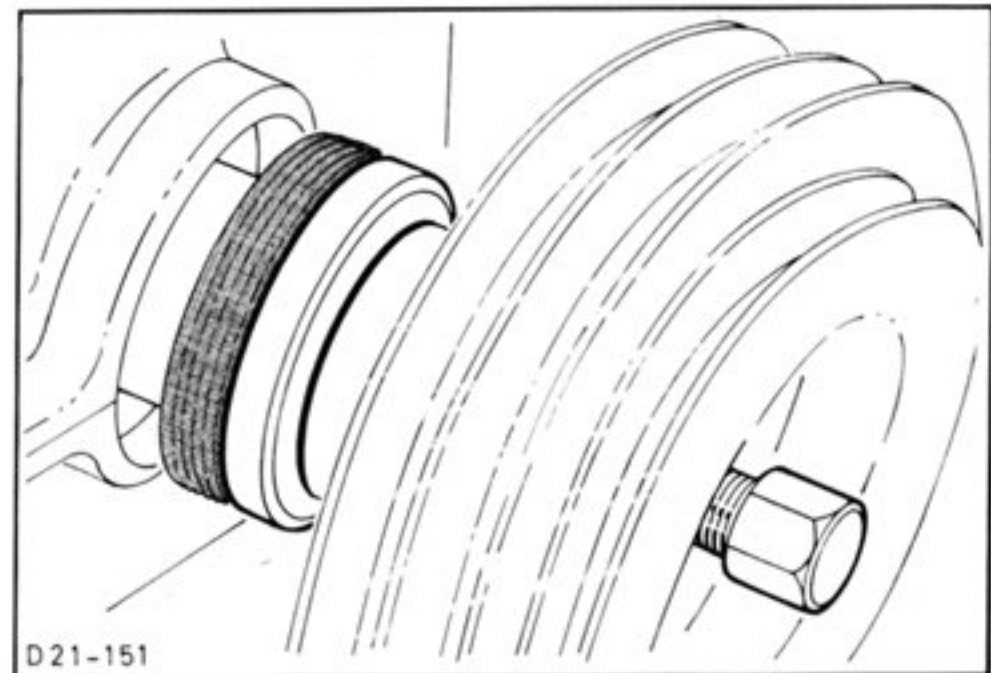

Fig.60. Centre timing cover by means of Special Tool 21-069 and crankshaft pulley.
48. Position gasket and fit assembled timing cover, centering cover by means of Special Tool 21-069 and crankshaft pulley, Fig.60. Tighten bolts to specified torque.